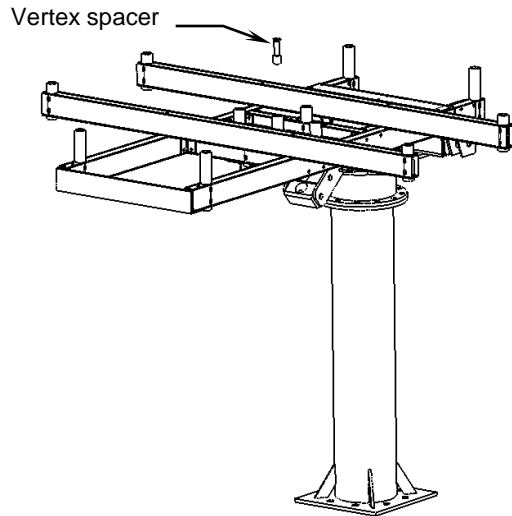
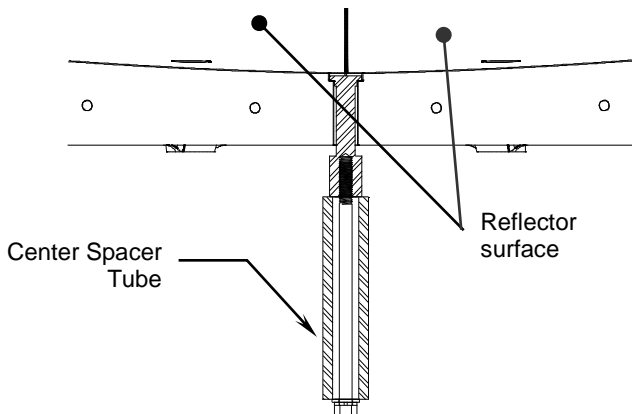

Figure 13: Vertex Spacer Assembly
Figure 14: Vertex Spacer Detail
11. Install the vertex spacer, Item 38, as shown in Figure 13, Vertex Spacer Assembly. This vertex spacer is to catch the lip in the nose of the reflector petals to help hold the weight of the petals during assembly. Assemble the vertex spacer using Items 23, 25, and 26. See Figure 14, Vertex Spacer Detail.